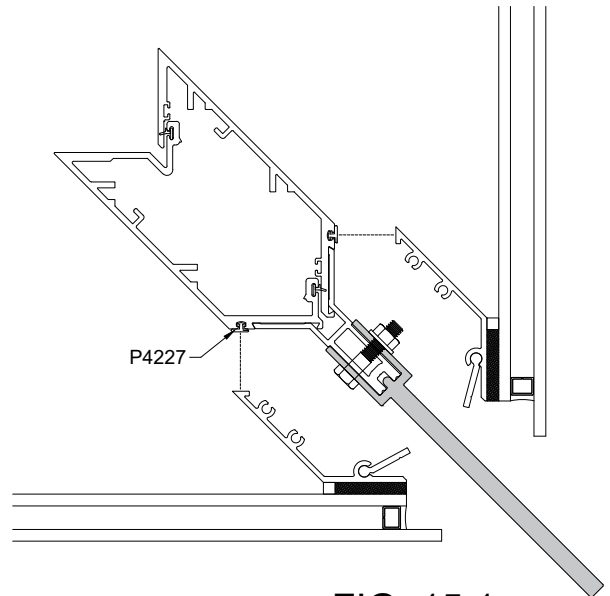

FIG. 15.1
- 3) Verify perimeter gasket P4227 has been installed. Fig. 15.1.